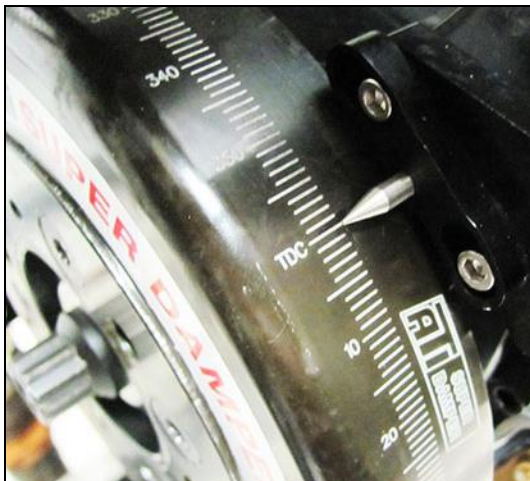

Figure 5: Rotating the Engine to TDC #1
1. Manually rotate the engine to TDC (Top Dead Center) of the #1 cylinder as shown in **Figure 5** below.
2. Check the hub surface to which the crank trigger wheel (1) will be mounted to ensure that it is smooth & free of any excess dirt, debris, or oil. Clean the face of the balancer as required.
3. Three bolt harmonic balancers require the adapter (8) to be placed in the trigger wheel before the trigger wheel is installed. Do this at this time if a three bolt balancer is used. With the *Holley EFI* logo facing outward, center the wheel on the hub of the balancer using the recess on the rear of the wheel.